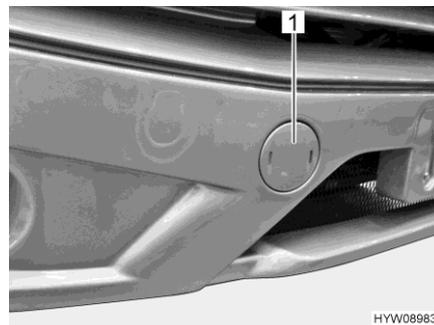

Fig. 40 Cover (mount of the towing eye)
- Lever up the cover (Fig. 40,1) using a screwdriver.